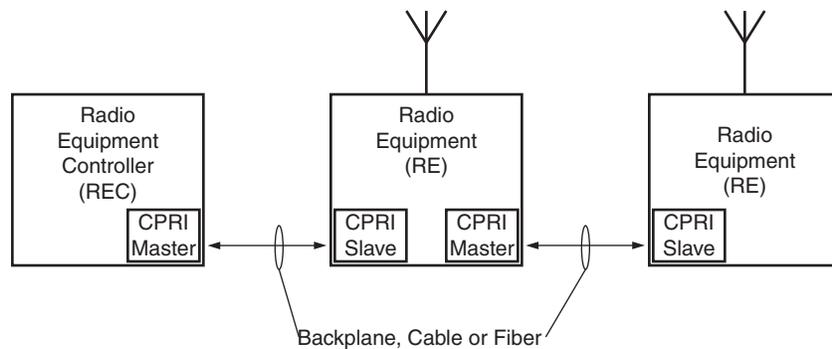

Figure 2: Location of CPRI in a Cellular System
CPRI is an emerging standard for communication between a Radio Equipment Controller (REC) or Base Station and one or more Radio Equipment (RE) units in a 3 G cellular network. The concept is to foster an independent technology evolution for cellular equipment products by defining a publicly available specification for the key internal interface between these units. Figure 2 shows the position of the interface in a cellular system.